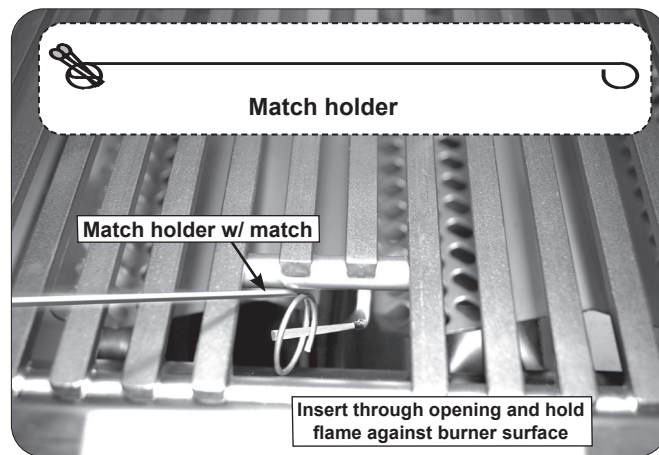

Fig. 35-2 Manual lighting
2. Insert either a burning long-barrel butane lighter, a burning long-stem match, or a burning match held by a wire extension holder through the cooking grids to the burner (Fig. 35-2).